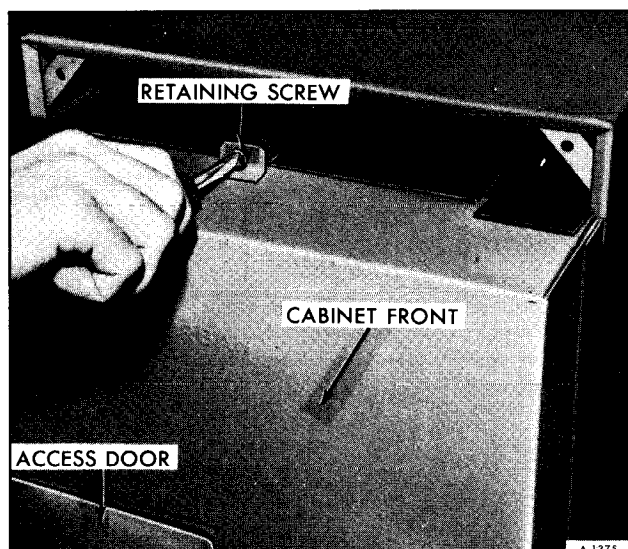

Figure 7—Removing Cabinet Front
3. Remove cabinet front (one screw at top of cabinet front) (figure 7).
4. Install cabinet front being sure the edges are set properly in all grooves. Secure with one screw at top (See figure 7).